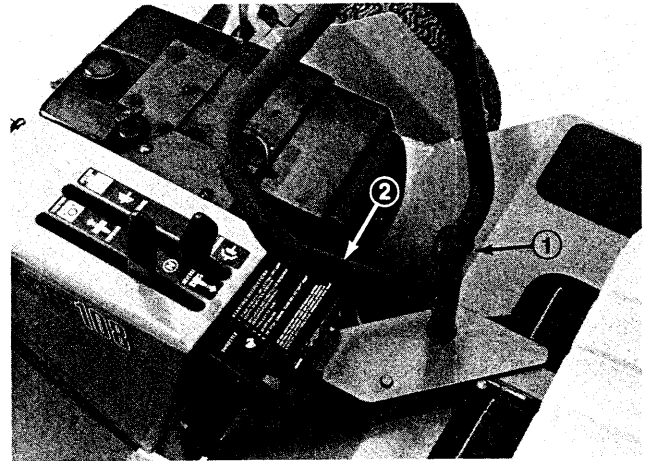

Figure 3
1. Remove roll pin at top of steering shaft, mount steering wheel over shaft and secure with pin (Fig. 3).